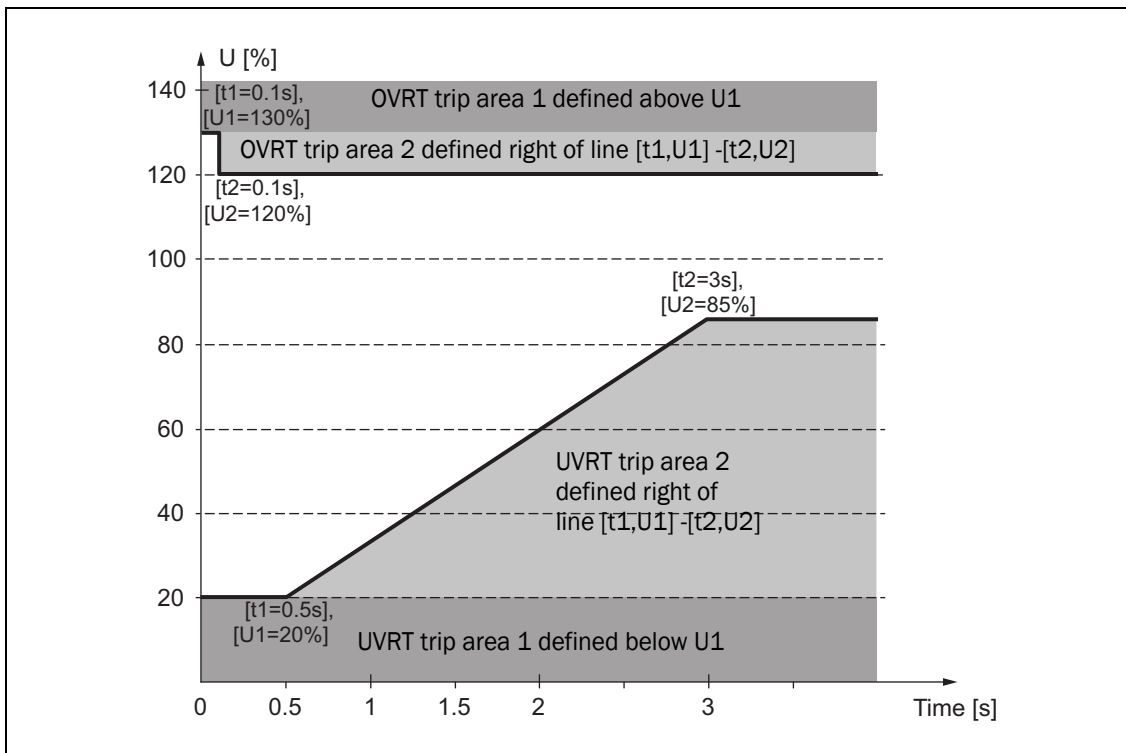

Fig. 44 UVRT and OVRT trip area description
Fig. 43 FRT modes I(Q) and I(P) dynamic reactive current support for positive- and negative sequence according to EN 50549-2. Dedicated trip areas in the time-domain for both UVRT and OVRT are configurable via parameters [G32D]-[G32G] for UVRT and [G32H]-[G32K] for OVRT as shown in Fig. 44 (Source IEC 50549-2).